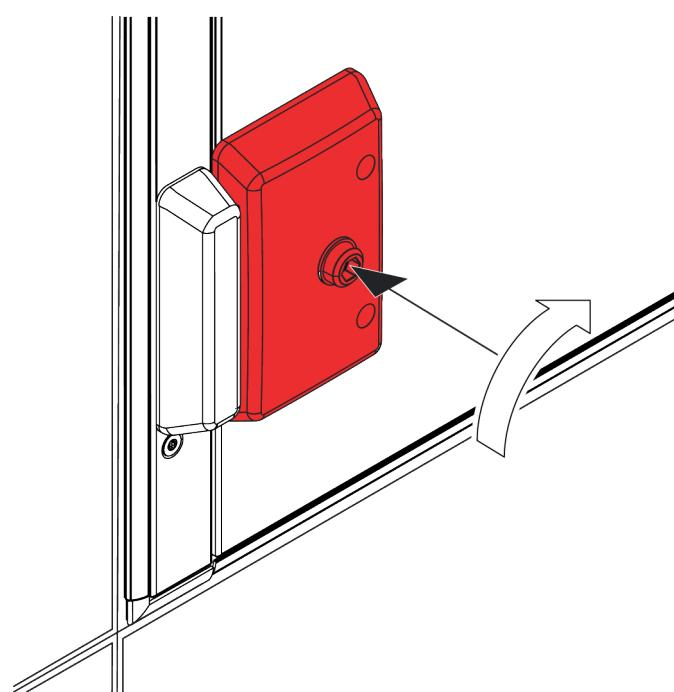

Fig. 15: Opening the door lock to hazardous areas
- ▶ Insert the TROX special key into the door lock and turn it anticlockwise as far as it will go (Fig. 15).